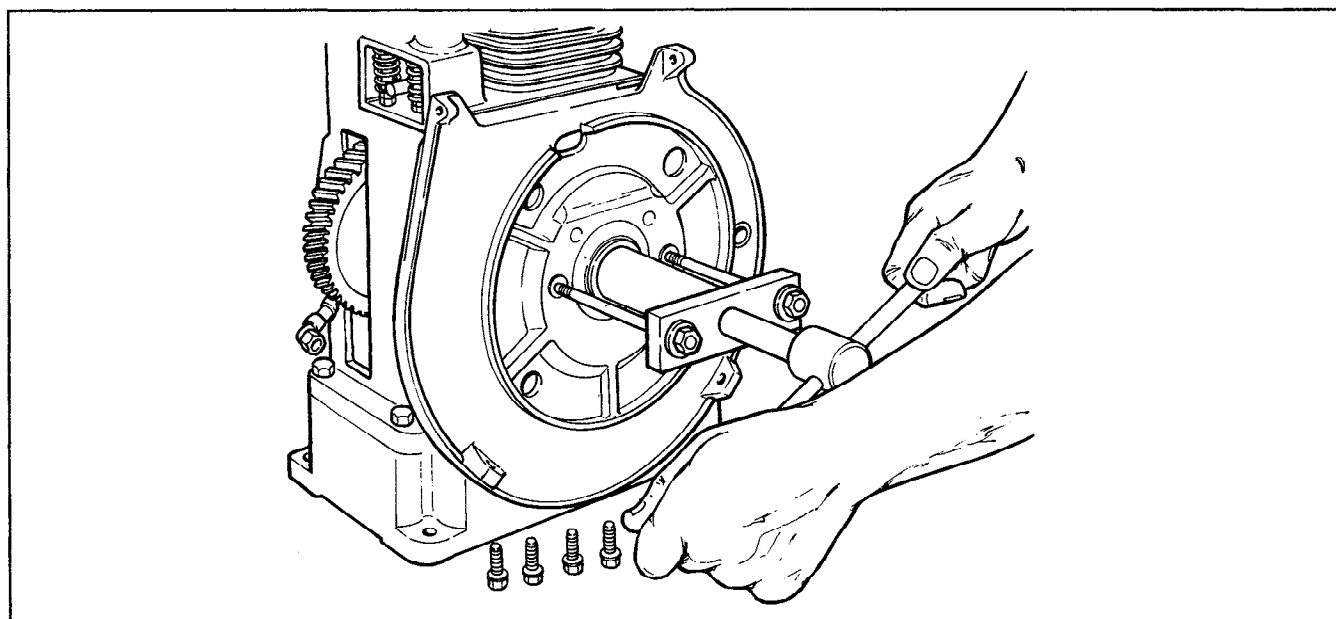

Figure 10-8. Removal Of Bearing Plate With Puller.
2. Remove the bearing plate from the crankshaft using a puller. Refer to Figure 10-8.